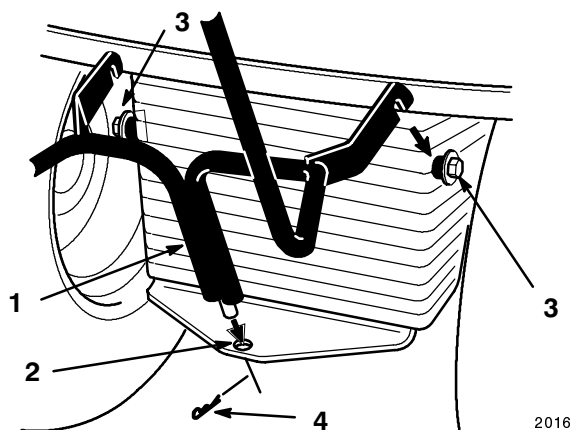

Figure 17
1. Slide the bottom of the quick-attach bracket down into the hole in the hitch and hook the notches onto the spacers located inside the tractor frame (Fig. 17).
2. Slide the hair pin cotter through the hole at the bottom of the quick-attach bracket (Fig. 17).